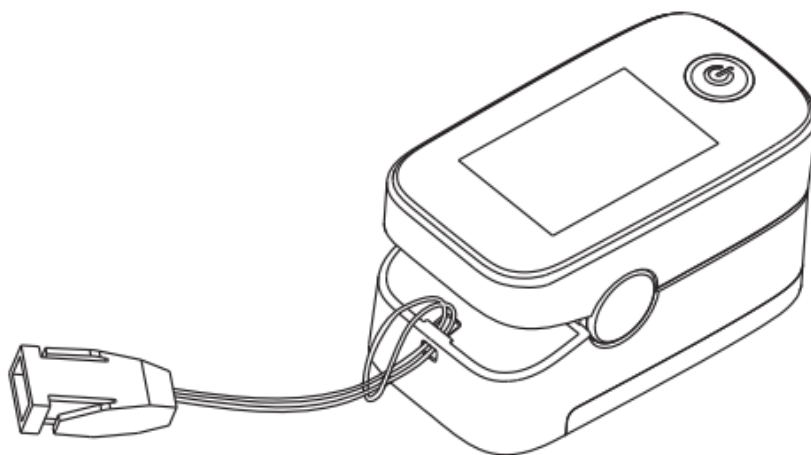

Figure3 Lanyard Installation
- Pass the thicker end of the lanyard through the thinner end and tighten the lanyard(Figure3).